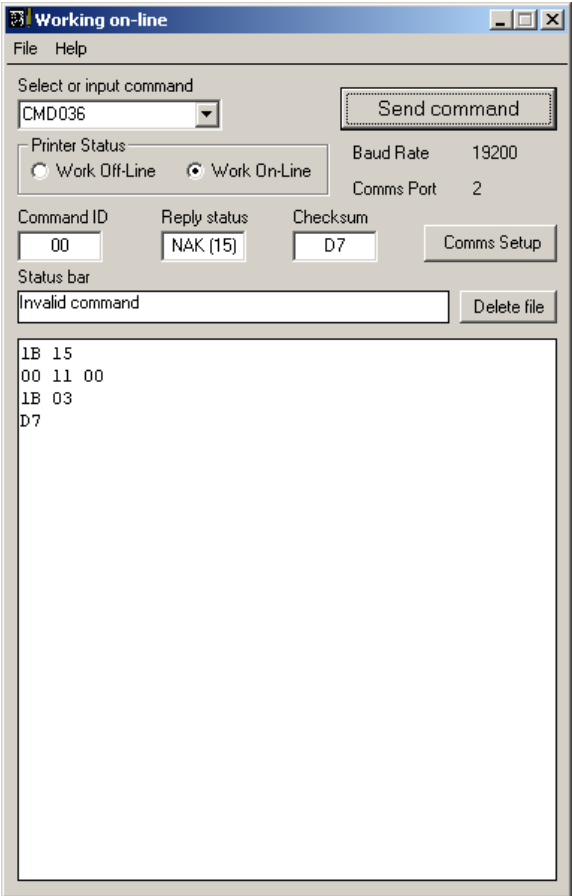

Figure 1.5 Negative
In Fig 1.5 CMD036 was sent which is a reserved command and the printer rejected this command. Therefore the reply Command ID was 00_H, the Reply Status was NAK (15), the Checksum was D7 and the error message was “Invalid command”. Again the formatted printer reply is shown in the bottom pane.